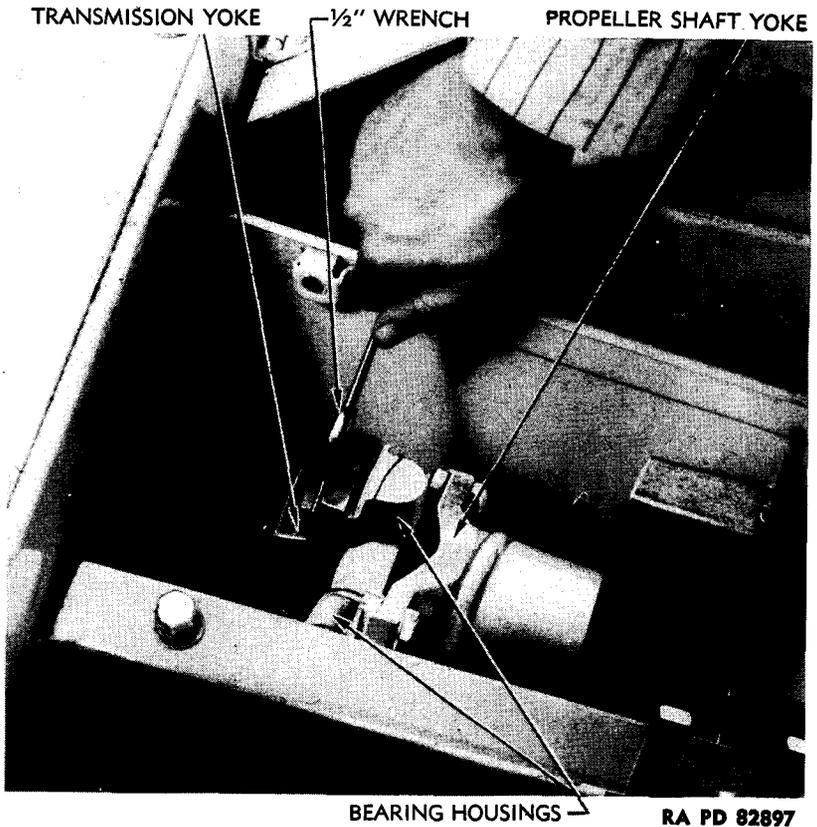

Figure 94 – Disconnecting Universal Joints
(2) REMOVE PROPELLER SHAFTS AND UNIVERSAL JOINTS. Tie a piece of wire around universal joint bearing housings that are connected to the transmission and transfer unit, to prevent housings from slipping off cross and possibly losing some of the needle bearings when disconnected. Straighten lock plate under each of the four universal joint bearing housings. Disconnect universal joints at transmission and transfer unit ends by removing eight bearing housing mounting screws (fig. 94). Push front universal joint yoke toward rear of vehicle to telescope sliding joint. Remove propeller shaft and universal joints.